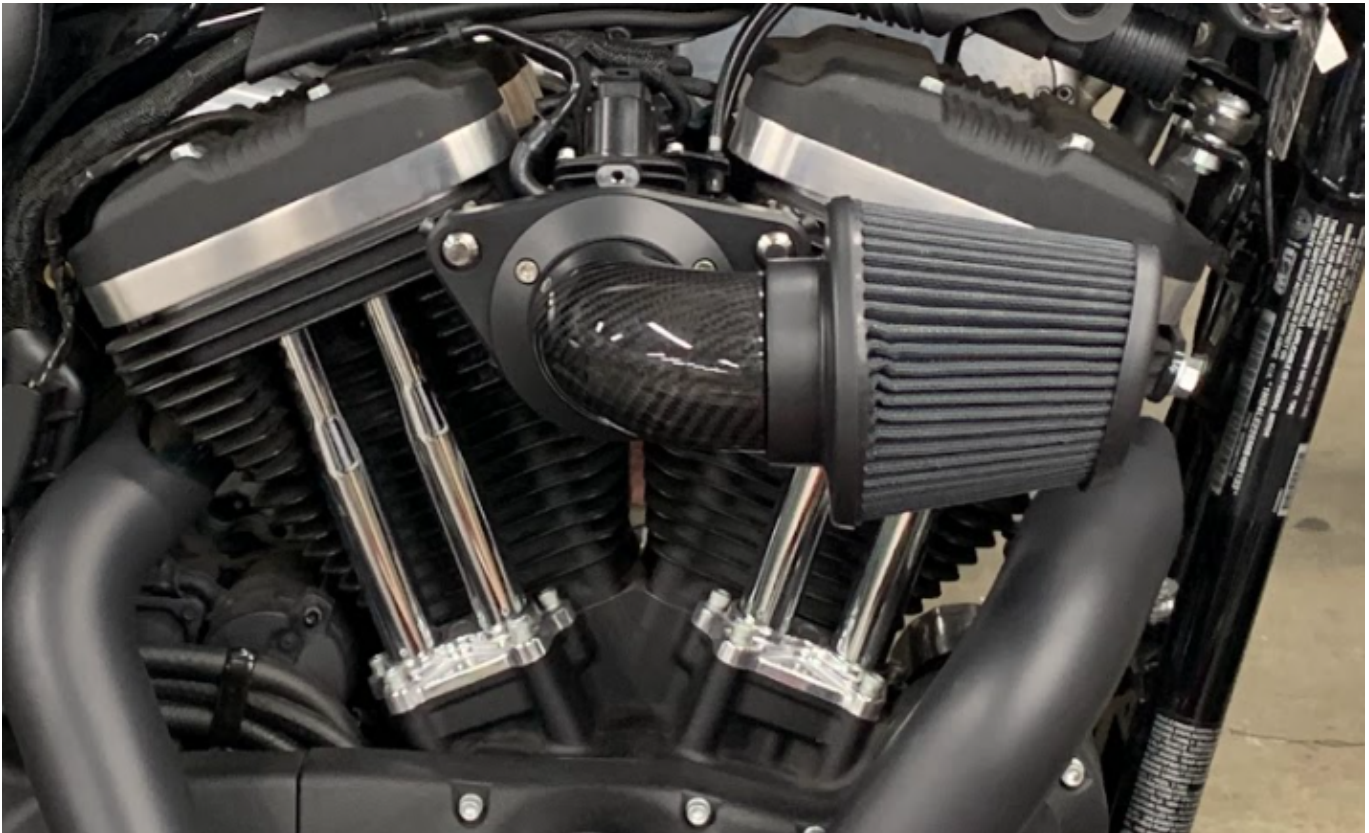

Figure 2
10. Install the air filter **(6)** on to the 90 degree tube. Clock air filter **(6)** and air filter base **(5)** as shown (See Fig. 2)